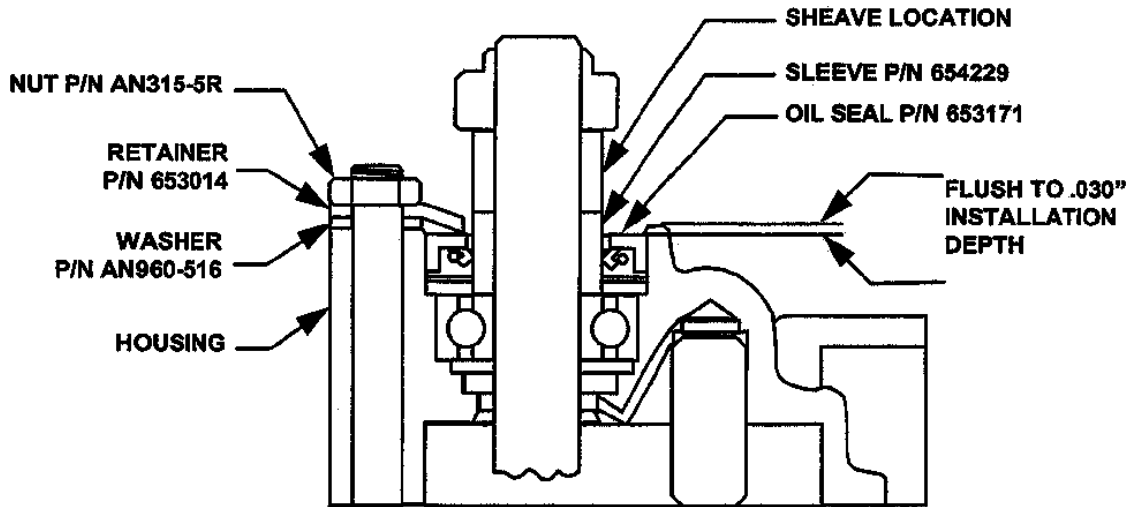

FIGURE 3.
11. Position the assembled oil seal (8) and sleeve (6) over the starter adapter shaft and into the seal bore in body (7). Lightly tap or press the seal and sleeve (8 and 6) as an assembly into its recess in body (7). The seal must be positioned flush with or within .030 inches below the surface of its recess. See Figure 3.
12. Install washer (3), seal retaining clip (2) and nut (1) on stud adjacent to oil seal (8). Torque nut to 180 - 220 inch pounds.
14. Reinstall spacer (5) or air-conditioning drive sheeve and shims onto starter adapter shaft.
15. Lubricate shaft threads with clean engine oil and install 12 point nut (4). Torque nut to 450-500 inch pounds.